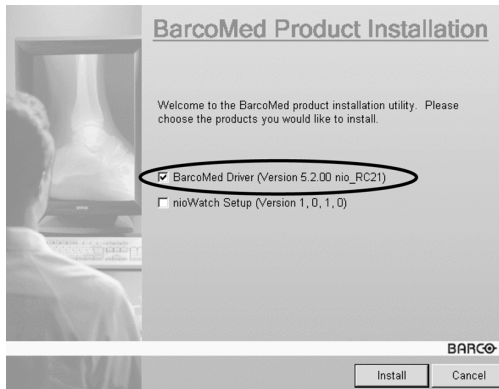

Figure 60
3. To update the driver, clear the checkbox next to **“NioWatch Setup”** (figure 60) and click **“Install”**.